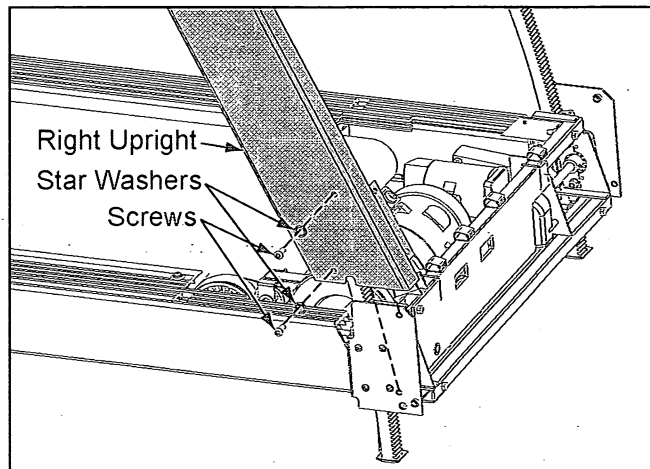

Figure 3
- Attach the right upright to the base using two button head screws and two star washers. Finger-tighten the screws, leaving them fairly loose at this time. See Figure 3.